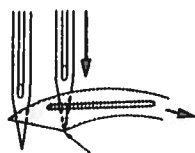

fig. 4
- The point of the righthand needle must, in its downward stroke, be in line with the lower edge of the looper (lower portion of looper behind eye) when they meet (fig. 4).